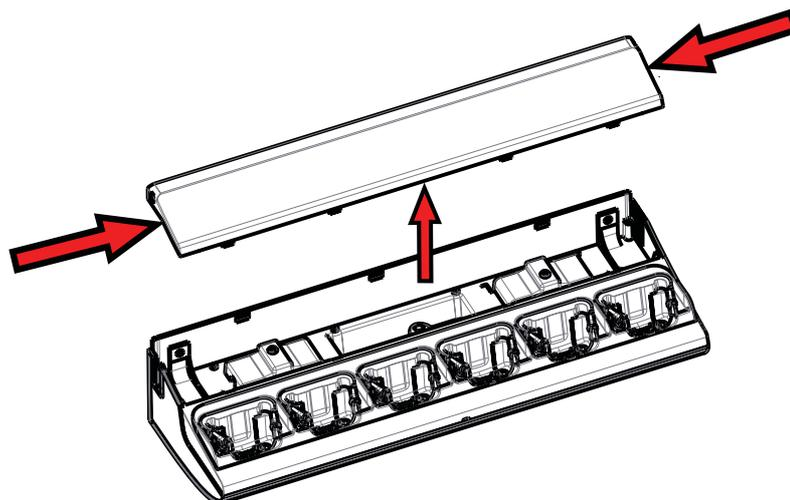

Figure 5. Opening the top cover of the Charging Rack.
- 10 Replace the top cover, see figure 5.
- 1 Open the top cover, see figure 5 on page 9.